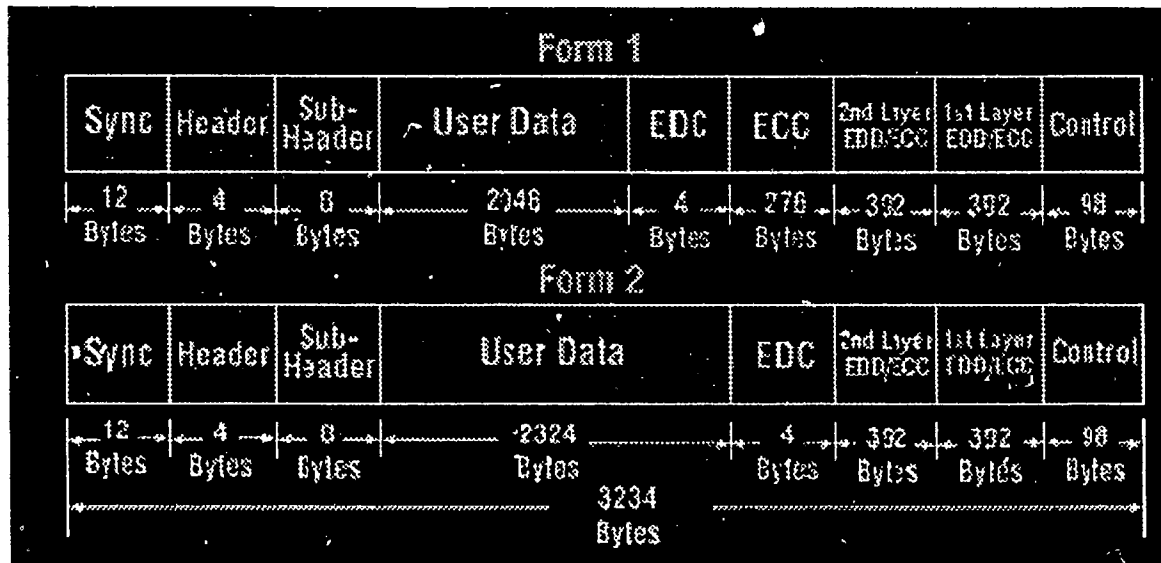

Figure 11 Green Book block
The Green Book standard applies to the Extended Architecture (XA). The Form 1 is used for computer data while Form 2 is used for compressed audio and video data. CD-ROM/XA allows Form 1 computer data to be interleaved on the same track with Form 2 audio/video data such that both appear to playback at the same time. In Form 2, if audio is compressed, the quality level is reduced from normal CD-Audio levels. The Green Book is also used for CD-I formats. See Figure 11.